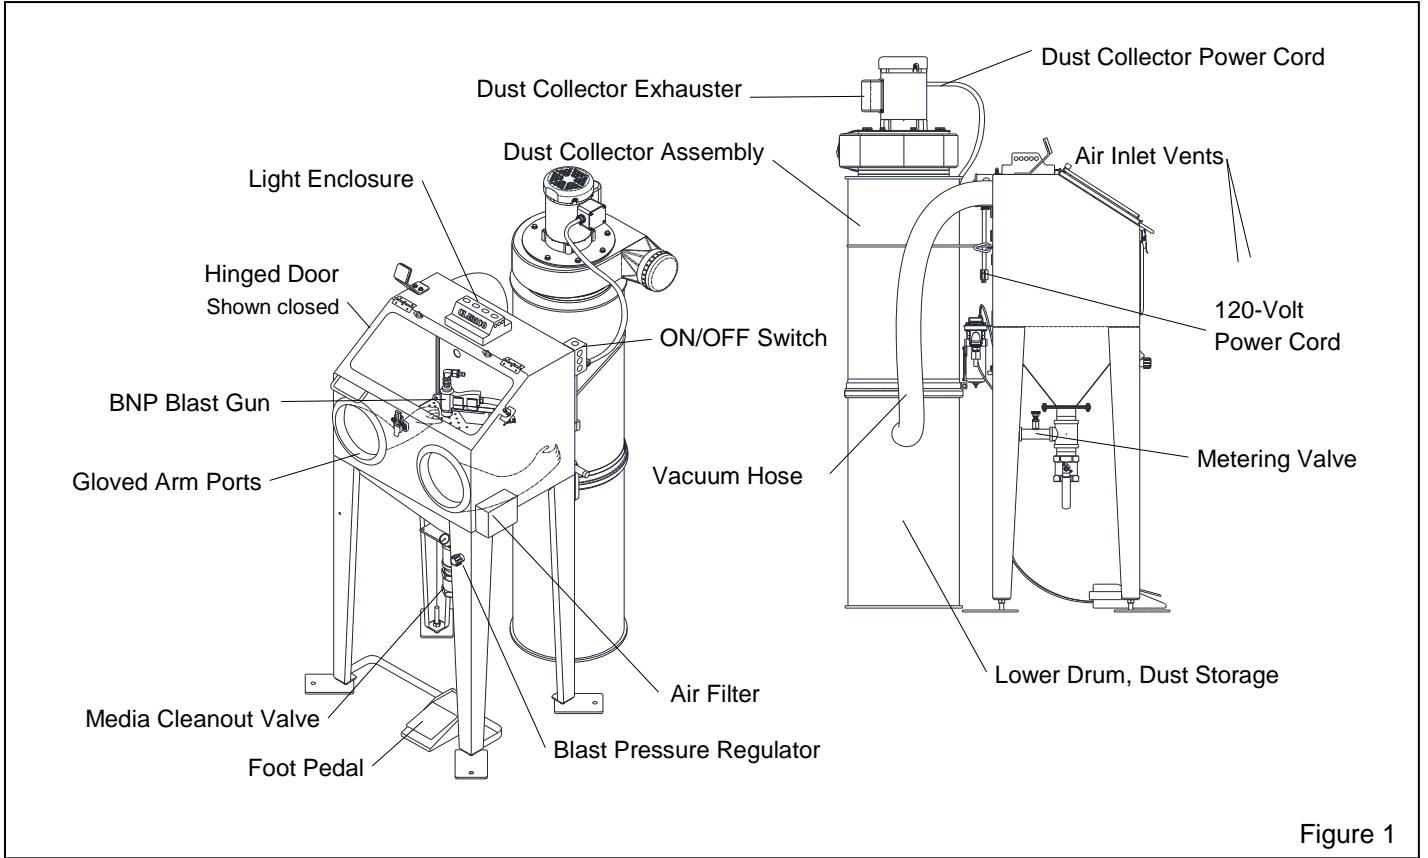
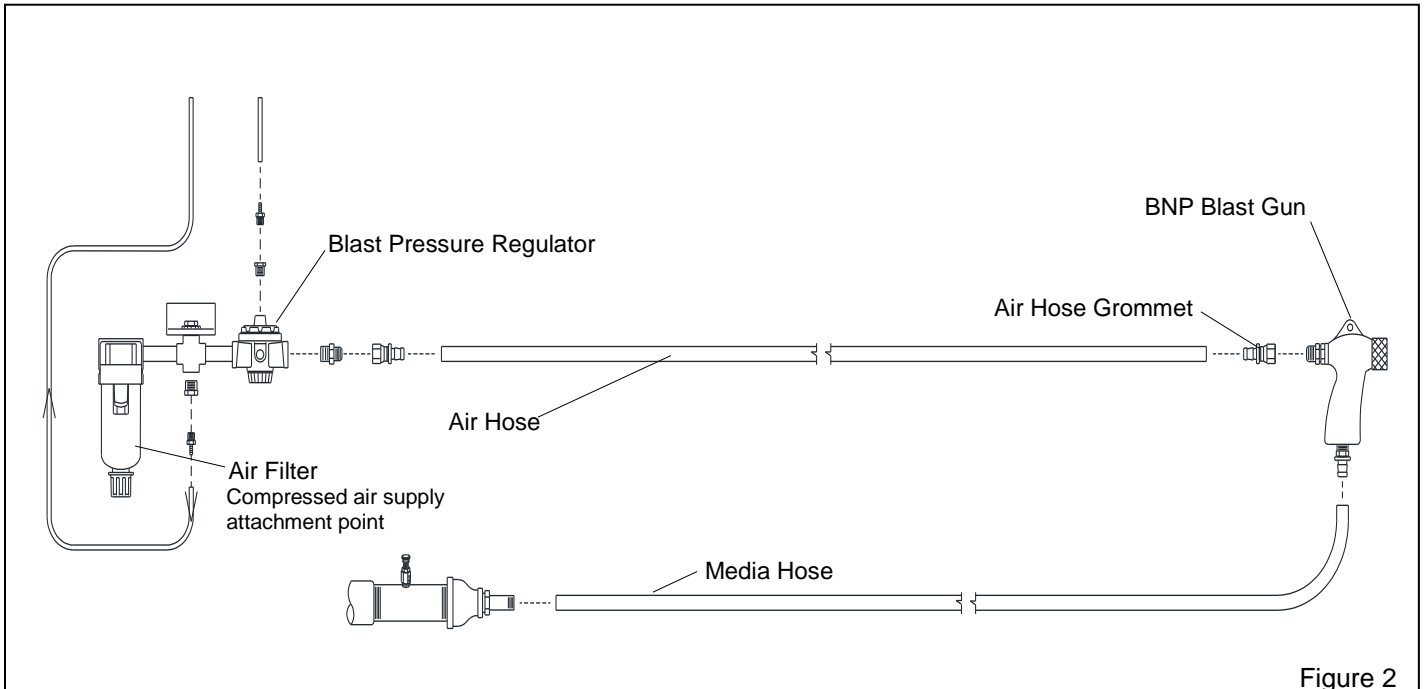

Figure 1
Figure 2
**1.4.3** Refer to Figure 1 for the general arrangement of the cabinet and dust collector, and for callouts of main components. Refer to Figure 2 for the blast gun and feed assembly layout.
1.6.1 Refer to Figure 2 for the arrangement and components of the blast gun.
**2.2.1** Refer to Figure 1 for the general arrangement. Place all components in a convenient location where compressed air and electrical service are available. The cabinet location must comply with OSHA and local safety codes. Allow for full access to all doors and service areas, and for efficient handling of large parts. Place the dust collector behind the cabinet with hose connection toward the cabinet and with as few hose bends as possible. Provide enough clearance around the dust collector to remove the upper drum and empty the lower storage drum.